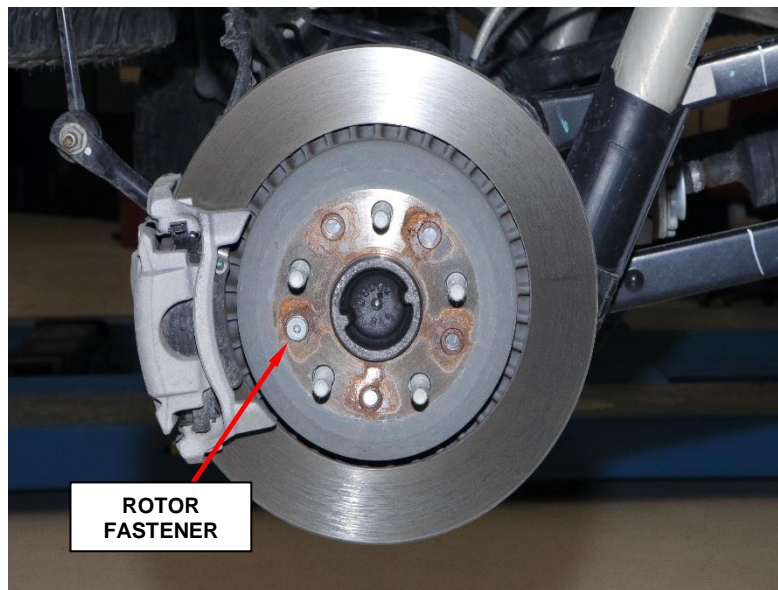

Figure 2 – Brake Rotor Fastener
3. Remove the brake rotor fastener (Figure 2).